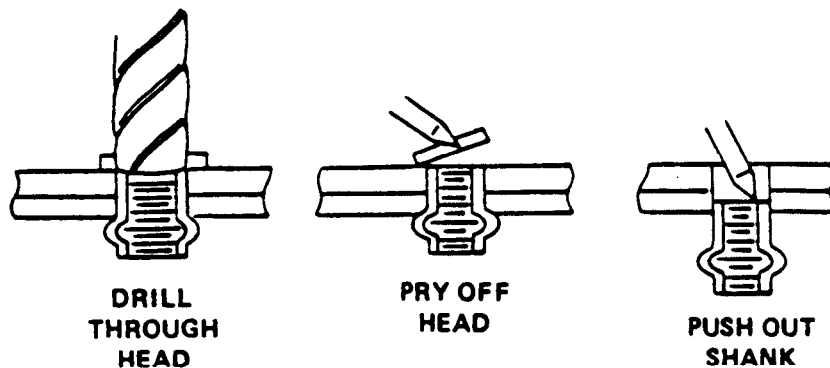

Figure 3-10. Removing Rivnuts.
#### (2) Removal (Figure 3-10)